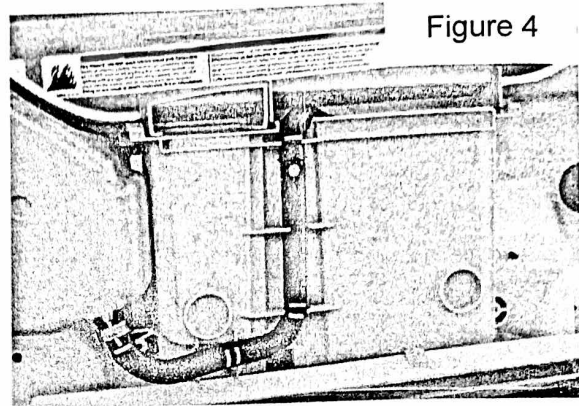

Figure 4
Step 1- Before raising the top cover, if there is detergent in the bulk tank, reach under the dispenser box and feel for the rubber tube. Pull the tube downwards to disengage it from the dispenser box. See figure 4.